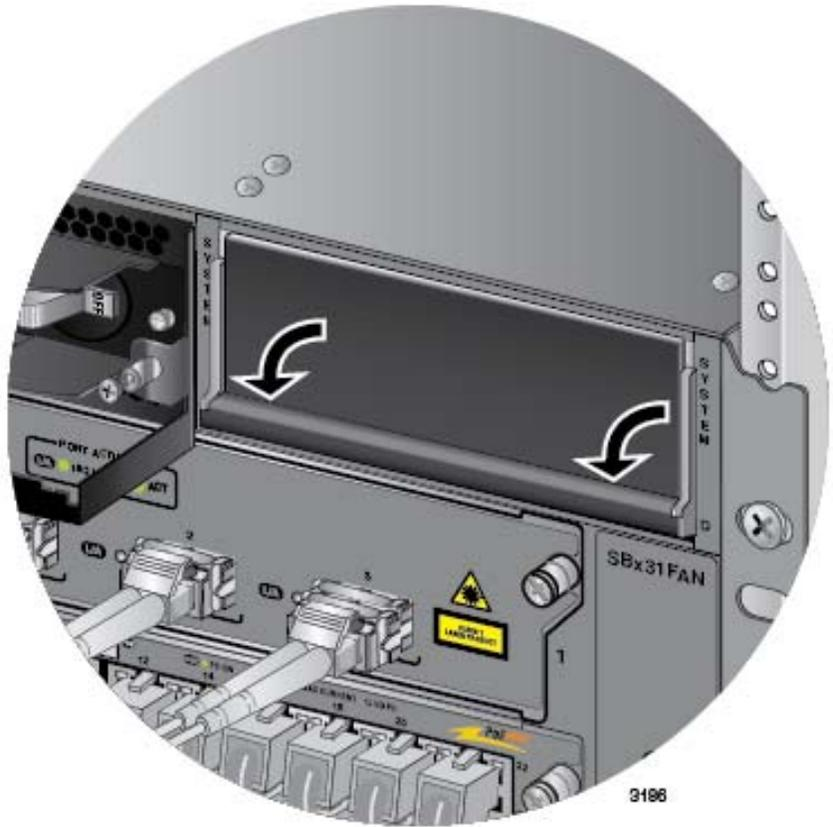

Figure 160. Lowering the Locking Handle on the Power Supply Slot Cover
14. Lower the locking handle to secure the slot cover to the slot. Refer to Figure 160 on page 249.